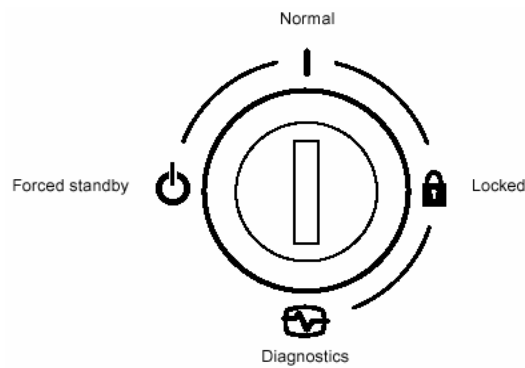

Figure 43 : SUN SF V240 key switch
- (1) Locator indicator LED
- (2) Service required indicator LED
- (3) Active indicator LED
- (4) 5.25-inch drive bay (DVD-ROM drive).
- (5) Four hard drive slots.
- (6) Smart card drive with its system configuration card.
- (7) Power switch.
- (8) Key switch (see Figure 43)